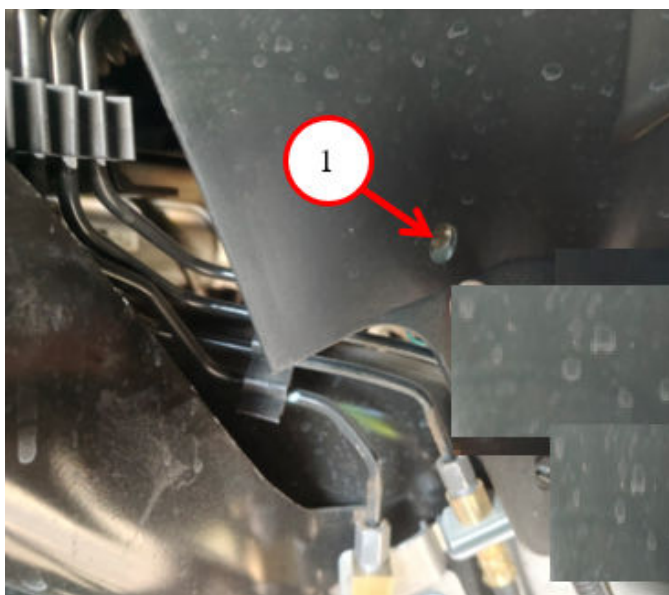

Fig. 7
12. Install the harness connector with the new wiring clip to the existing hole FIG. Confirm that the clip is located in the correct hole Fig. 7 and Fig. 9.